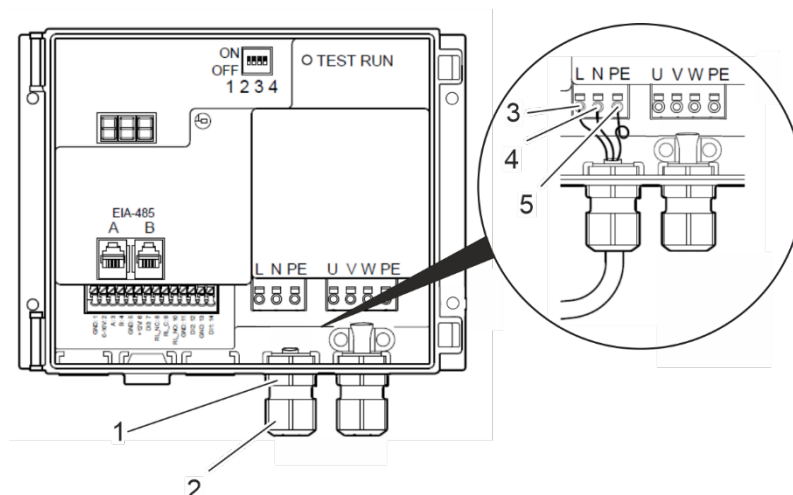

Fig. 96: Terminals Power supply
2. Loosen the nut (Fig. 96/2) of the cable entry (Fig. 96/1).
3. Slide the nut (Fig. 96/2) of the cable entry (Fig. 96/1) over the power cable.
4. Insert the power cable through the cable entry (Fig. 96/1) into the rotor cleaner drive.
5. Connect the phase wire to terminal L (Fig. 96/3).
6. Connect the neutral wire to terminal N (Fig. 96/4).
7. Connect the protective wire to terminal PE (Fig. 96/5).
8. Secure the power cable in the cable entry (Fig. 96/1) by tightening the nut (Fig. 96/2).